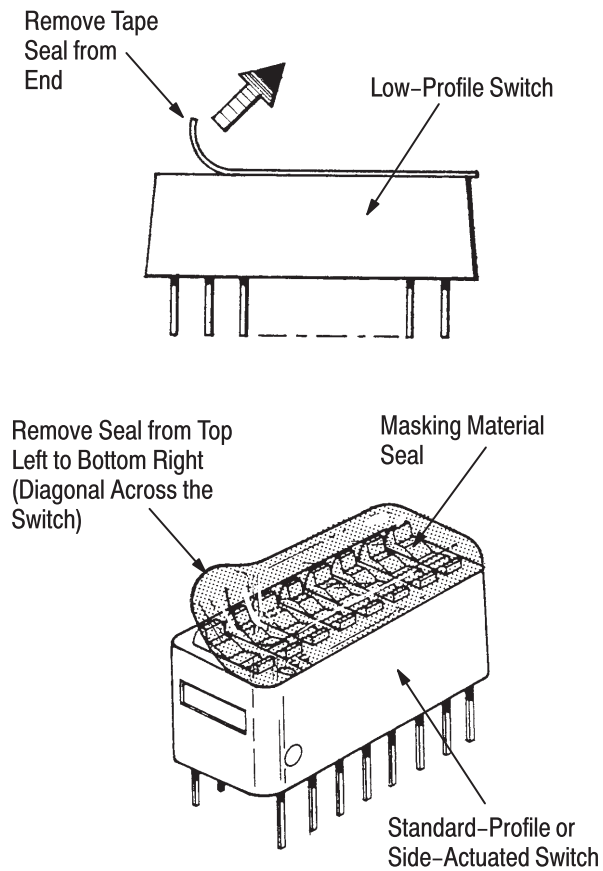

Figure 6
1. Remove seal from the switches, see Figure 6.